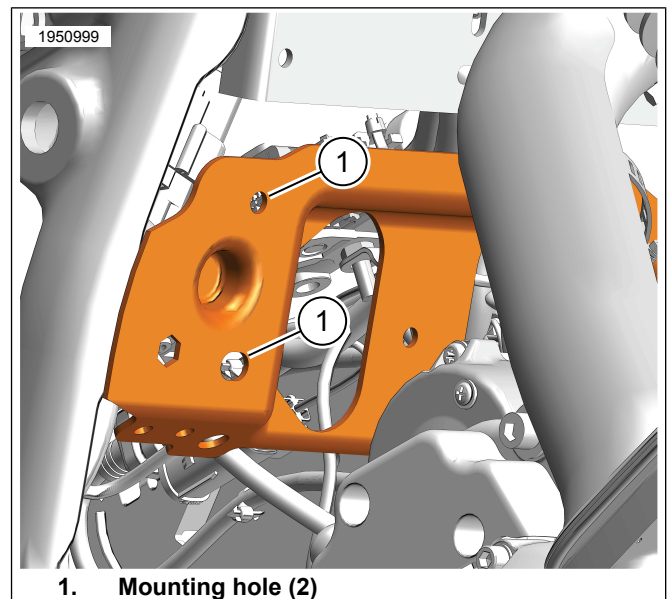

Figure 2. Frame Cross Member
1. See Figure 2. Locate mounting holes (1) in right side of frame cross member.